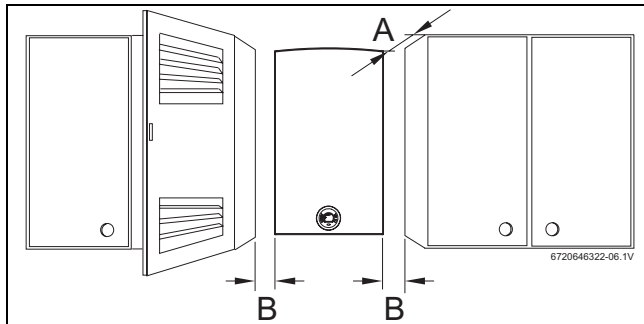

Fig. 22 Minimum distances
- ▶ Observe the minimum installation measurements indicated in Fig. 22.
- ▶ Ensure adequate access for maintenance work, observing the minimum distances indicated in Fig. 22.